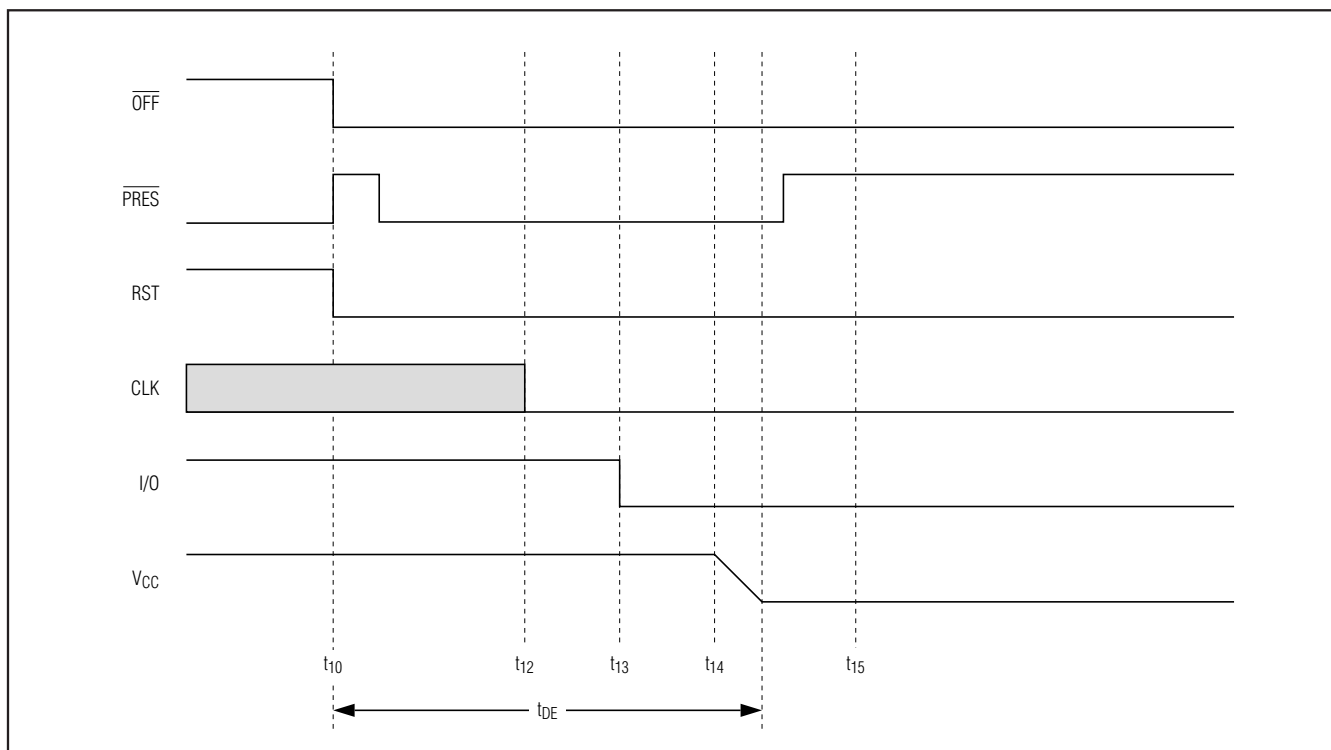

Figure 7. Emergency Deactivation Sequence (Card Extraction)
The DS8023 crystal oscillator runs when the device is powered up. If the crystal oscillator is used or the clock pulse on pin XTAL1 is permanent, the clock pulse is applied to the card at time  $t_4$  (see Figures 7 and 8). If the signal applied to XTAL1 is controlled by the host microcontroller, the clock pulse is applied to the card when it is sent by the system microcontroller (after completion of the activation sequence).
- **Within a Card Session ( $\overline{\text{CMDVCC}}$  Low).** Output  $\overline{\text{OFF}}$  goes low when a fault condition is detected, and an emergency deactivation is performed automatically (Figure 7). When the system controller resets  $\overline{\text{CMDVCC}}$  to high, it may sense the  $\overline{\text{OFF}}$  level again after completing the deactivation sequence. This distinguishes between a card extraction and a hardware problem ( $\overline{\text{OFF}}$  goes high again if a card is present).